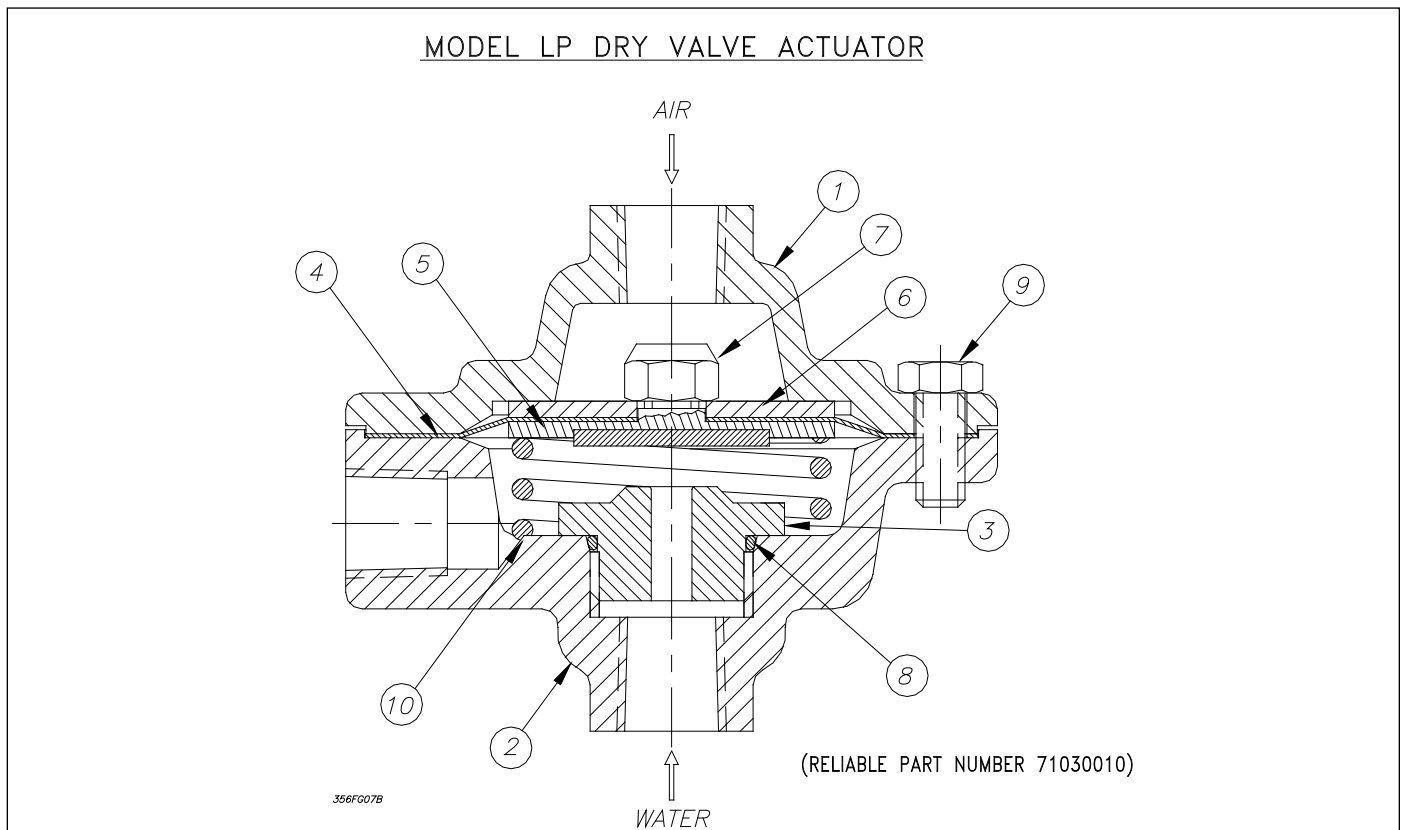

Fig. 8
Refer to Fig. 8
4. Remove all six bolts (#9, Fig. 8) holding the Actuator together. Clean or replace the facing plate assembly (#5, Fig. 8) and seat (#3, Fig. 8).
- Reassemble the Actuator, using a torque of 8 ft-lbs on the facing plate nut (#7, Fig. 8) and 12 ft-lbs on the six bolts (#9, Fig. 8). Use a cross-tightening pattern. Reinstall the Actuator. Set up the Model DDX Deluge Valve as per the section of this bulletin entitled "Resetting the Single Interlock Preaction System."